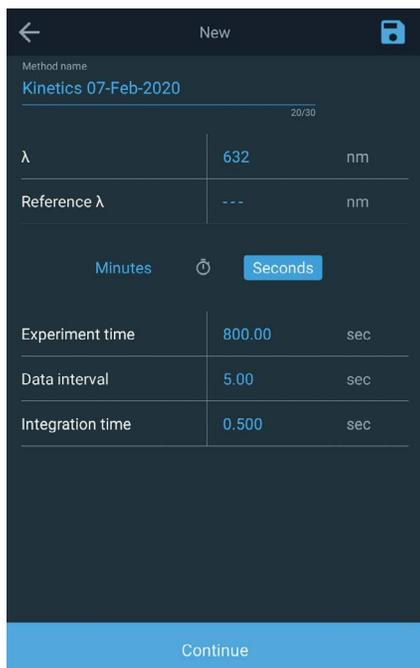

Figure 1: Kinetics method setting
- Select the Kinetics method and enter 632 nm as the measured wavelength. Set the Experiment time to 800 seconds, the Data interval to 5 seconds and the Integration time to 0.5 seconds (Figure 1).